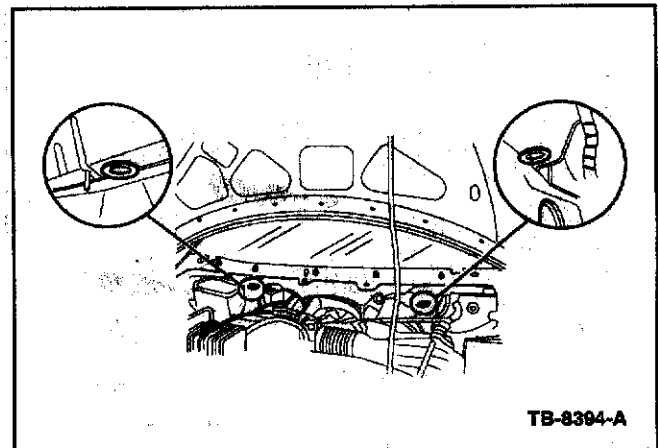

Figure 11 - Article 06-14-10
14. Remove and discard the two rubber plugs on the bottom of the cowl sheet metal. (Figure 11)